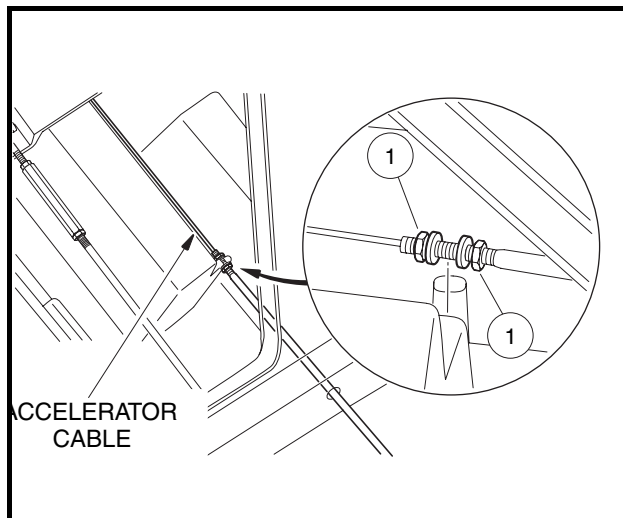

Figure 16-50 Connect Cable
25. Insert the accelerator cable through the hole in the frame and connect the accelerator cable to the pedal group as described in **GCOR, Section 5, Page 5-3** Position the accelerator cable in the mounting brackets in the vehicle base and adjust mounting nuts (1) to remove all slack in the wire portion of the cable. Tighten mounting nuts to 23 in-lb (2.6 N-m) (**Figure 16-50, Page 16-20**).